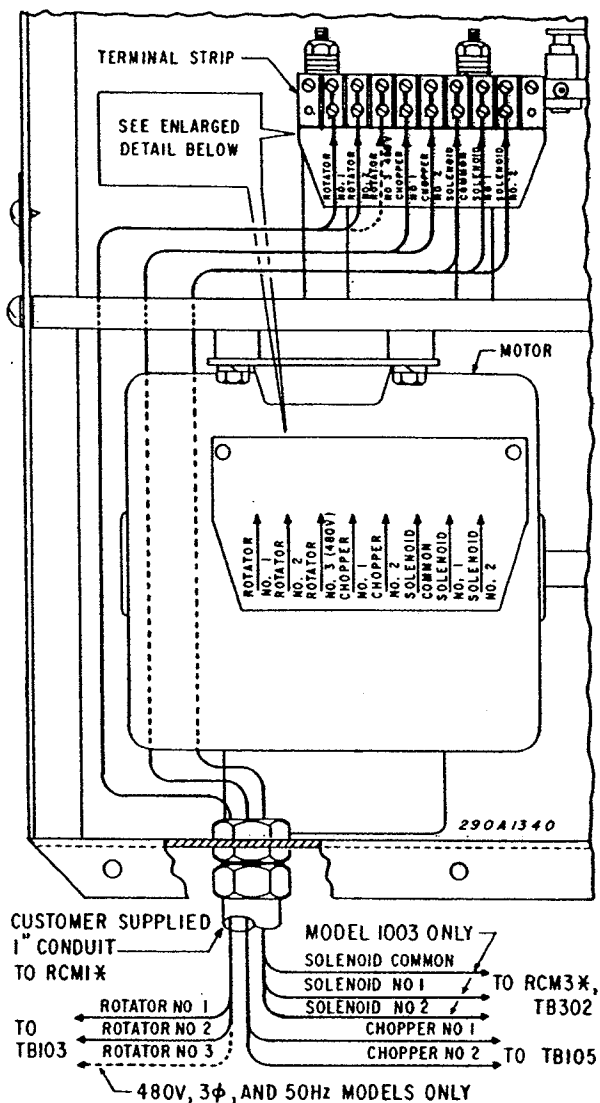

Figure 3-19. Rotator Assembly Interior Connections.
6. Route the wiring through the rotator housing to the terminal strip, as indicated in figure 3-19. Connect the wiring to the terminal strip as indicated in figure 3-19.
10. Route the wiring through the rotator housing to the terminal strip, as indicated in figure 3-19. Connect the wiring to the terminal strip as indicated in the figure. If separate wires are used it may be desirable to tie them together with cable ties at several points along their length inside of the rotator housing.